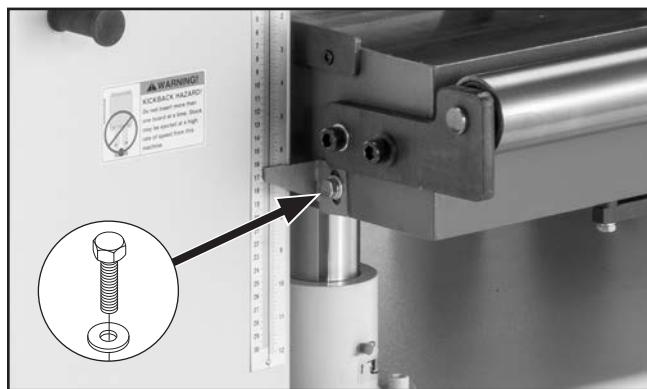

Figure 83. Location of adjustment hex bolt for table elevation scale.
3. If there is a discrepancy between board thickness and reading on table elevation scale, loosen hex bolt shown in **Figure 83**, adjust scale indicator as necessary, then tighten hex bolt.